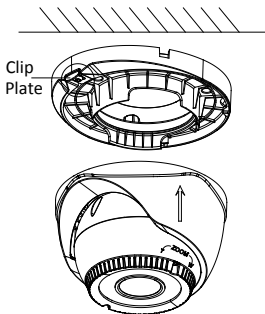

Figure 1-16 Installing the Camera and the Enclosure
5. Secure the camera to the mounting base by pushing the camera into base so it is held by the clips. Push the clip plate back into place and tighten the locking screw (see Figure 1-16).